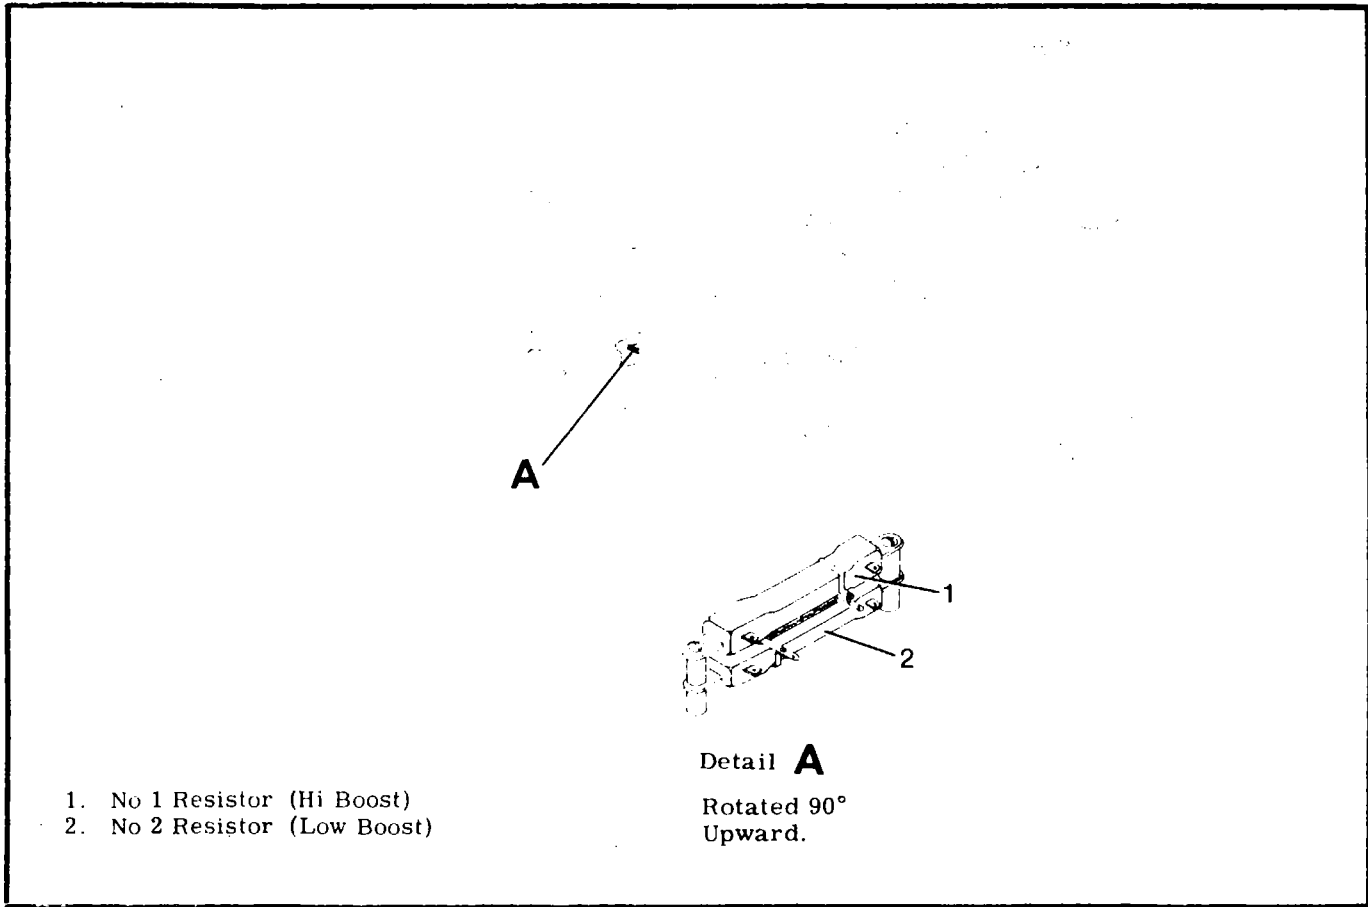

Figure 12-9. Auxiliary Fuel Pump Resistors.
12-32. AUXILIARY FUEL PUMP FLOW RATE ADJUSTMENT. (See figure 12-9.) Conduct these tests with engine stopped and external power on bus.
- f. Adjust number one(1) if required. (See figure 12-9.)